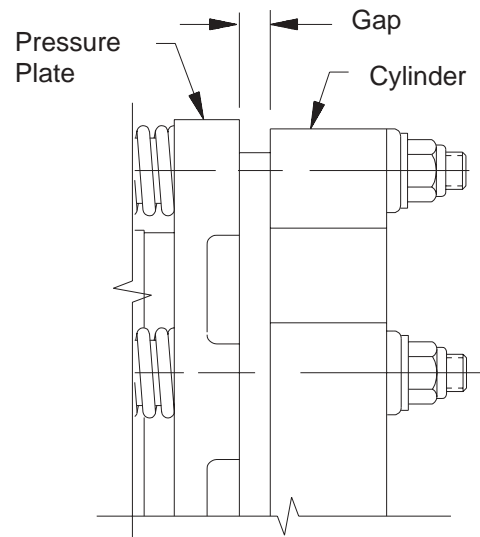

Fig. 8
- 4.2.2 On multiple disc elements, a wear adjustment is required when the friction material is partially worn. To determine when adjustment is required, apply approximately 25 PSIG (1.7 bar) pressure to the cylinder to engage the element. Measure the gap between the cylinder (19) and the pressure plate (14), as shown on Figure 8. If the gap exceeds the limit shown in Table 7 AND none of the friction discs are worn to the bottom of the wear groove, adjust per the following procedures.